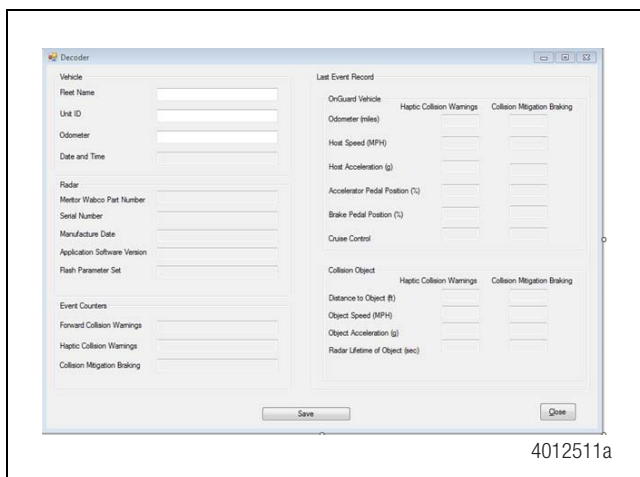

Figure 2.16
2. Information from the radar will be displayed on the screen. The Event Counters for Forward, Haptic Collision Warnings and Collision Mitigation Braking will display the total number of times these events occurred during the lifetime of the radar. The Last Event Record will display the information from the last occurrence of Haptic Collision Warnings and Collision Mitigation Braking. Meritor WABCO recommends entering the Fleet Name, Unit ID and Odometer before saving the file for correct identification. Figure 2.16.